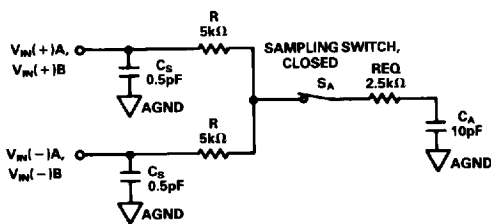
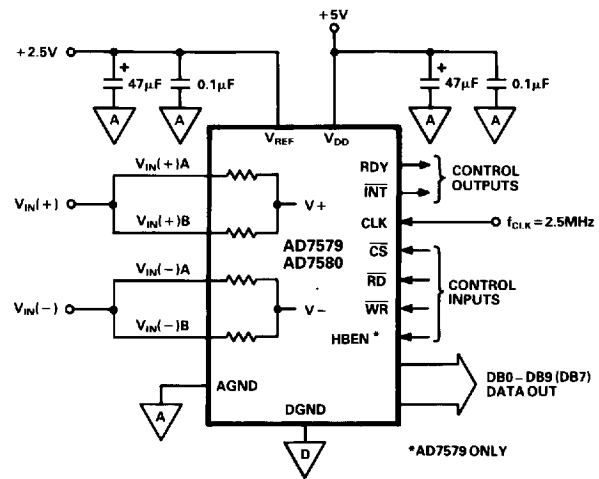

Figure 7. AD7579/AD7580 Equivalent Input Circuit During Sampling
Figure 12. Unipolar 2.5V Operational Diagram
| Figure 12 | V _{IN(+)} | V _{IN(+)} | V _{IN(-)} | V _{IN(-)} | 2.5V | 0V to +5V |
Figure 7 shows an ac equivalent input circuit for the AD7579/AD7580 when used in the 2.5V Unipolar Mode of Figure 12. The ADC comparator is a sampled data comparator and the input circuitry for this is represented by S_A , R_{eq} and C_A . R_{eq} is a combination of the switch-on resistance and the input impedance of the comparator. When conversion starts, $V_{IN(+)}$ is sampled for at least $(2t_{CLK} + t_{WR} + 200ns)$ before the comparator goes into the hold mode. This means that the analog input has a minimum of $1.1\mu s$ ($f_{CLK} = 2.5MHz$, $t_{WR} = 100ns$) to settle before the comparator makes a decision. By using the typical values in Figure 7 for R , R_{eq} and C_A , the input time constant is $50ns$. Settling to $\pm 1/4LSB$ in a 10-bit system takes 8.3 time constants or $415ns$ in this case. This means that $V_{IN(+)}$ has plenty of time to settle before the ADC comparison cycle begins. It is important to remember that any source resistance or source capacitance appearing at the input will also increase the settling time and this should be kept to a minimum in all cases.
With a 2.5MHz clock, the AD7579/AD7580 has a maximum conversion time of $18.5\mu s$. If $1\mu s$ is allowed for reading the data outputs, the maximum sampling rate for the device is 50kHz. This means that the maximum analog input frequency is 25kHz according to the Nyquist theory. The ADC input impedance in the Unipolar Configuration of Figure 12 is $10M\Omega$. A medium bandwidth op amp will drive this at 25kHz. When the input attenuators are used for signal conditioning, the input impedance is $10k\Omega$. The drive requirements on the amplifier will now be greater but any errors resulting will be gain errors only. Suitable op amps for driving the AD7579/AD7580 in any of the input configurations are the AD711, AD OP-27, AD544. These will deliver specified device performance over the input bandwidth.
Figure 12 shows the AD7579/AD7580 connected in the standard unipolar mode. Figure 13 and Table V show the ideal input/output
Table V. Input/Output Code Table for Figure 12
*DECOUPLING CIRCUITRY AND CONTROL CIRCUITRY AS IN FIGURE 12
In many cases, users of the AD7579/AD7580 will want to measure single-ended input voltages (i.e., ground referred signals). The circuits of Figures 12, 14 and 15 can be easily adapted to accept such signals. If $V_{IN}(-)$ in Figure 12 is tied to AGND, then the analog input range is 0V to +2.5V. By connecting $V_{IN}(-)$ of Figure 14 to AGND, the analog input range becomes 0V to +5V. Figure 15 can be modified as in Figure 16 to accept input voltages in the range -2.5V to +2.5V. Each of these circuits are special cases of the Differential Input circuits and are achieved by making the negative input to the internal comparator equal to AGND.